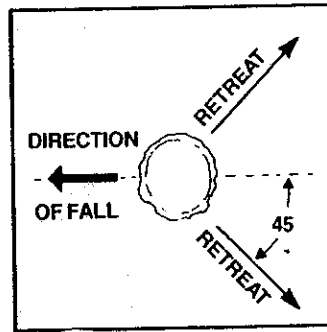

Figure 21
- Plan a clear retreat path to the rear and diagonal to the line of fall.** Figure 21.